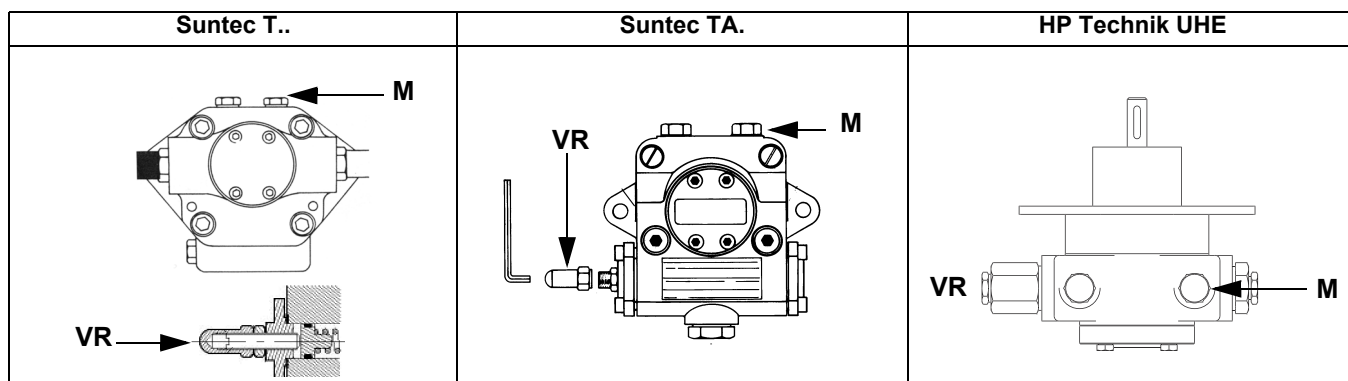
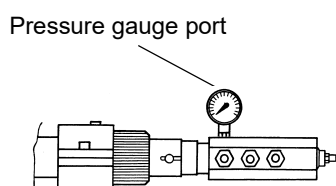

Fig. 6
Fig. 7
- 3 bleed the air from the **M** pressure gauge port (Fig. 6) by loosening the cap without removing it, then release the contactor.
- 5 Only if necessary, adjust the supply pressure as follows (see related paragraph); insert a pressure gauge into the port shown on Fig. 7 and act on the pump adjusting screw **VR** (see Fig. 6) as to get the nozzle pressure at 20bar (Monarch or Fluidics nozzles - see page 39-38).
4. VD can be mounted rotated by 180°, fig. 7.